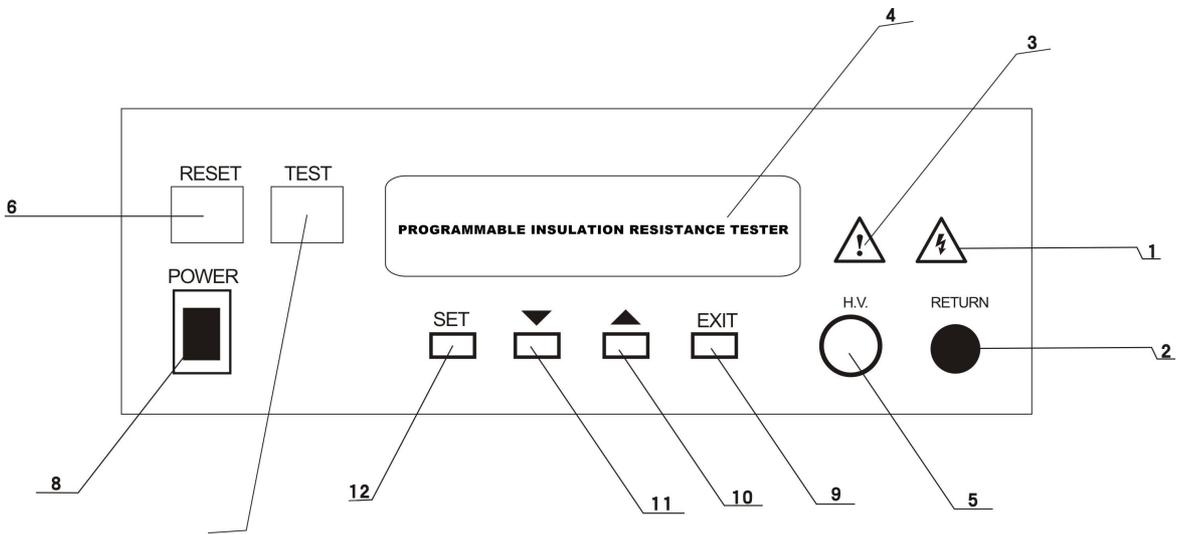

Figure 2-1 JK7200A front panel schematic diagram
1. Front panel description: The outline diagram of the front panel is shown in Figure 2-1